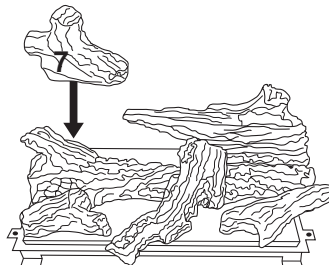

Figure 42 - Installing Log No. 7
5. Place back end of log #7 (left rear log) onto pin on left rear burner and rest front onto log #1 as shown in Figure 42.